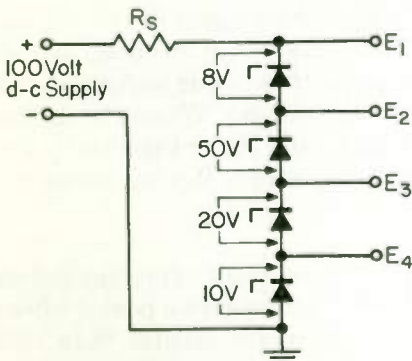

Fig. 23 A voltage divider constructed from zener diodes.
The use of a zener diode as a voltage regulator is extended in Fig. 23 to form a voltage divider where every output voltage is regulated. The voltage between E_4 and ground is (142) _____ volts. The voltage between E_3 and ground is (143) _____ volts. The voltage between E_2 and ground is (144) _____ volts, and the voltage between E_1 and ground is (145) _____ volts.